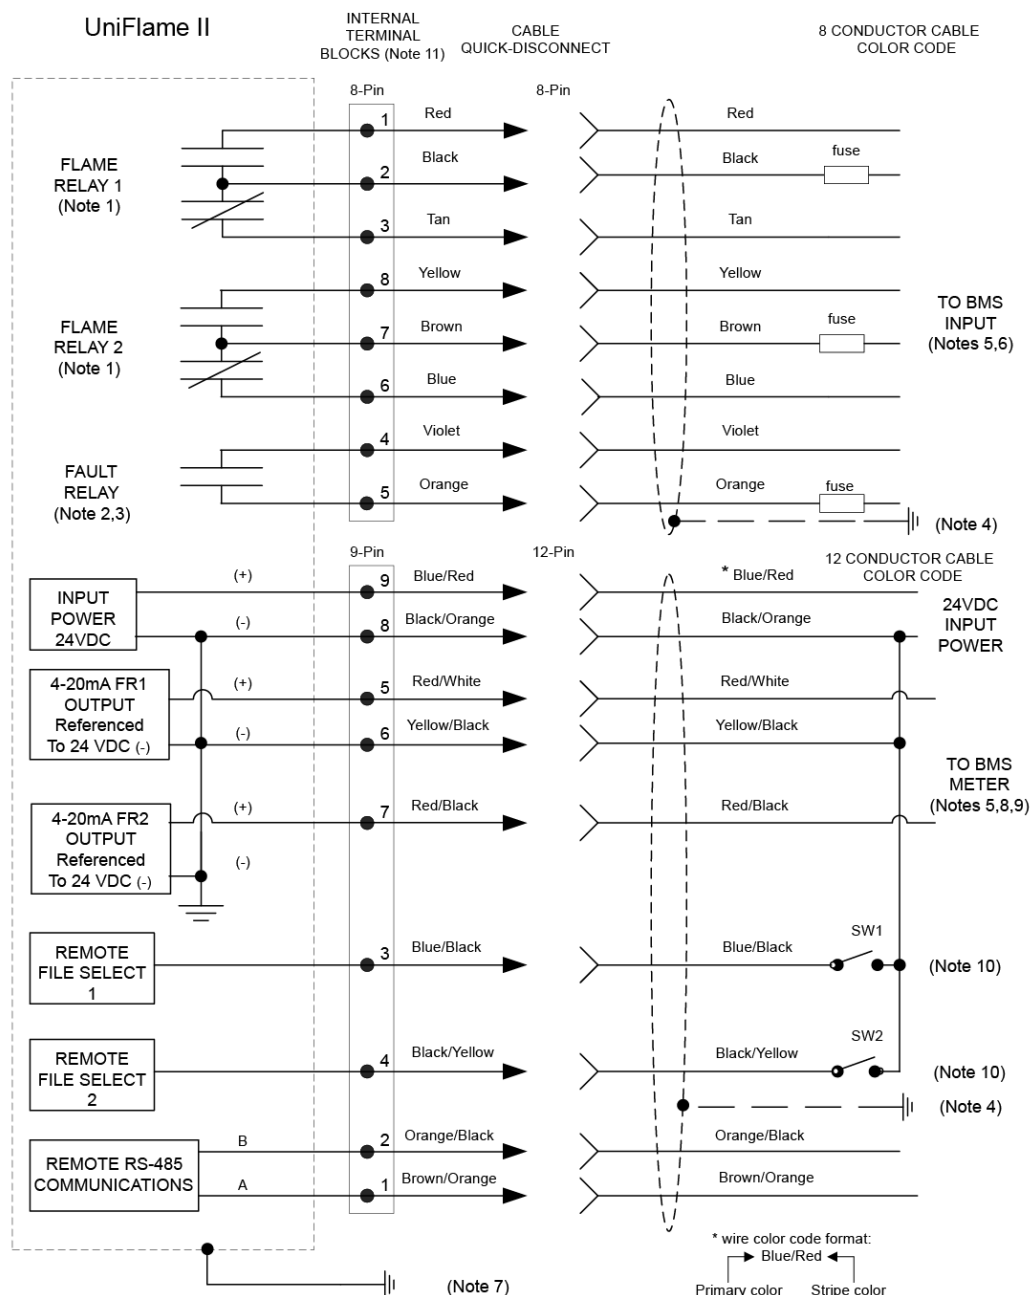

Figure 2-9 UniFlame II Wiring Diagram
1. Connect a safety ground to detector housing (Figure 2-9).